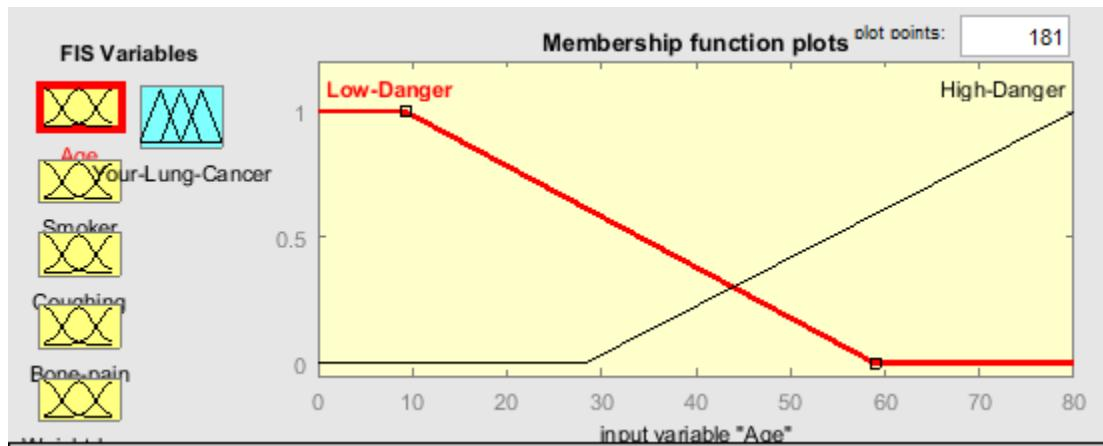

Figure 2: Age's MFs
- Double clicked on the Age and added 2 member functions (MFs) as shown in figure 2; also, changed the range of Input from [0 1] to [0 80].